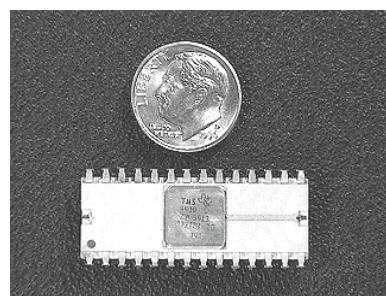

**Figure 1-24.—DIP packaging steps.**
The progressive stages in the assembly of a ceramic DIP are illustrated in figure 1-24, views (A) through (E). The integrated-circuit die is sandwiched between the two ceramic elements, as shown in view (A). The element on the left of view (A) is the bottom half of the sandwich and will hold the integrated-circuit die. The ceramic section on the right is the top of the sandwich. The large well in view (B) protects the IC die from mechanical stress during sealing operations. Each of the ceramic elements is coated with glass which has a low melting temperature for subsequent joining and sealing. View (B) shows the Kovar lead frame stamped and bent into its final shape. The excess material is intended to preserve pin alignment. The holes at each end are for the keying jig used in the final sealing operation. The lower half of the ceramic package is inserted into the lead frame shown in view (C). The die is mounted in the well and leads are attached. The top ceramic elements are bonded to the bottom element shown in view (D) and the excess material is removed from the package. View (E) is the final product.